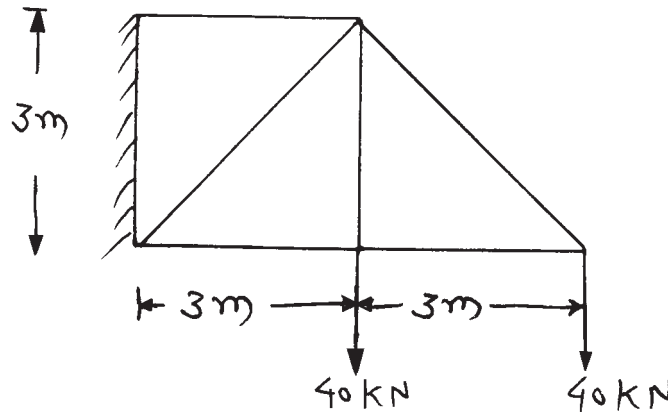

Fig. No. 1
- Find the forces in all the members of the truss as shown. Use method of joint Refer Figure No. 1.